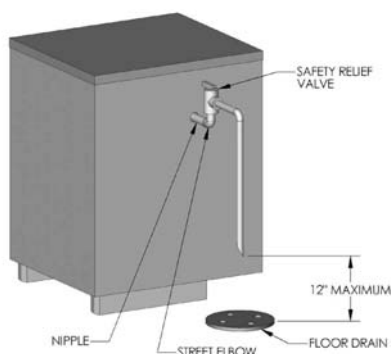

Figure 6.1 Relief Valve Piping Water Boiler
- a. Pipe the boiler relief valve into the 3/4" tapping on the left side of the boiler as shown in Figure 6.1. Be sure that the relief valve is sized in accordance with local code requirements. In addition, be sure that the relief valve is designed constructed and stamped in accordance with ASME Boiler and Pressure Vessel Code, Section IV.